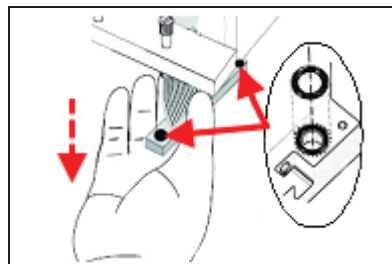

Figure 6-70: O-ring seals on the print head
15. Inspect the replacement head and make sure that the O-ring seals are in place (see figure 6-70).